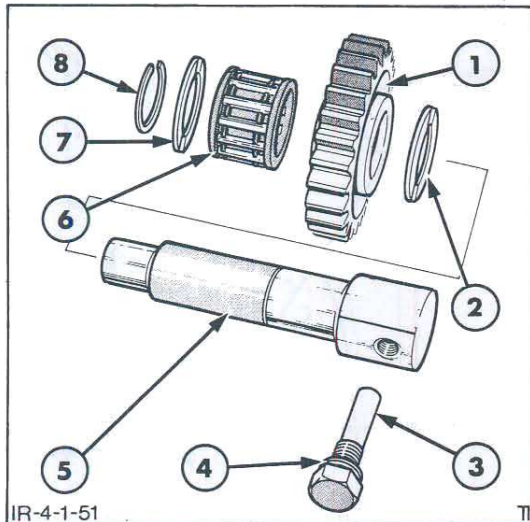

Figure 59
1. Install the reverse gear idler shaft into the transmission casing and assemble the component parts for the assembly in the following sequence with reference to Figure 59.